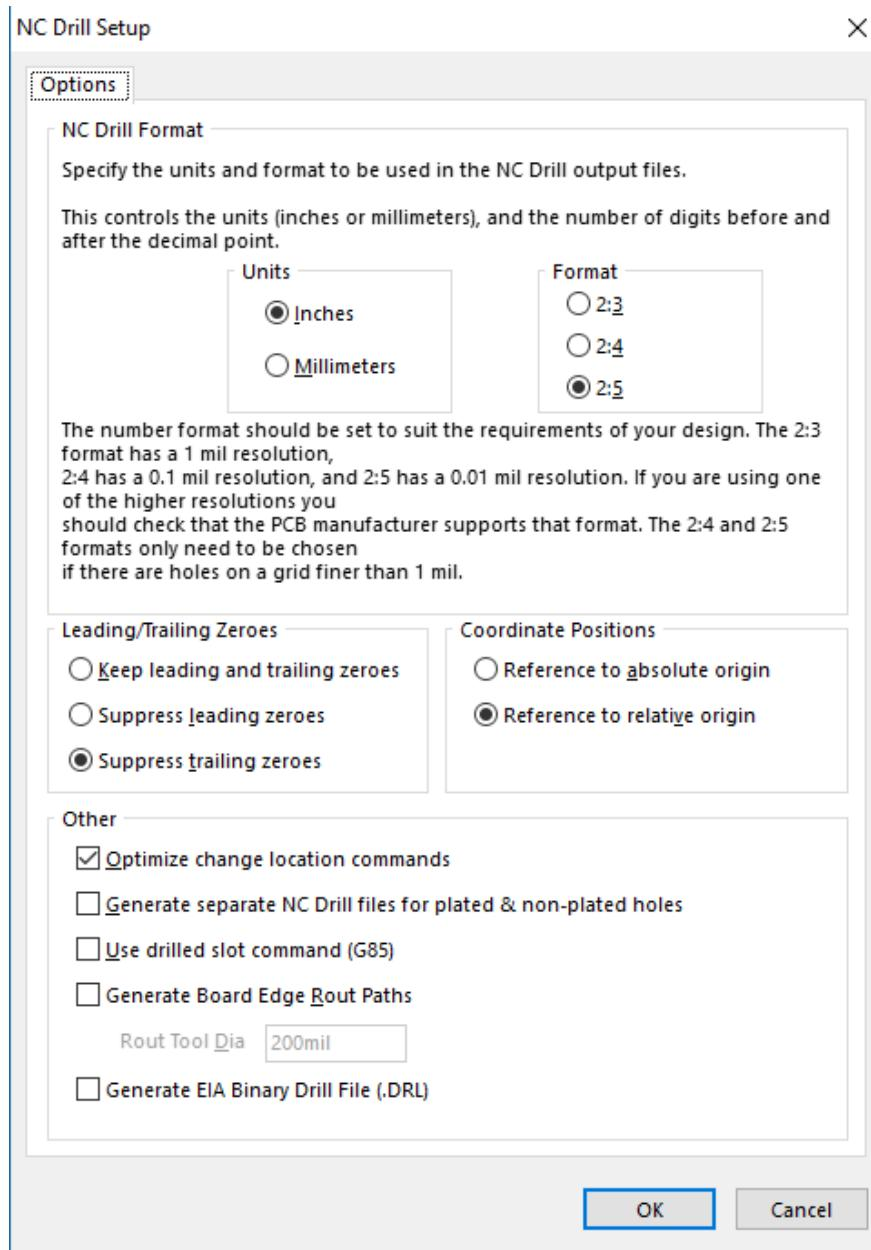

Figure 108: Altium PCB GDP NC Drill files.
59. The NC Drill files set up can be left default in most cases if not otherwise demanded by your board manufacturer. Figure 108 shows the default settings and your setup should look similar to that. The NC Drill file is a *.txt file.